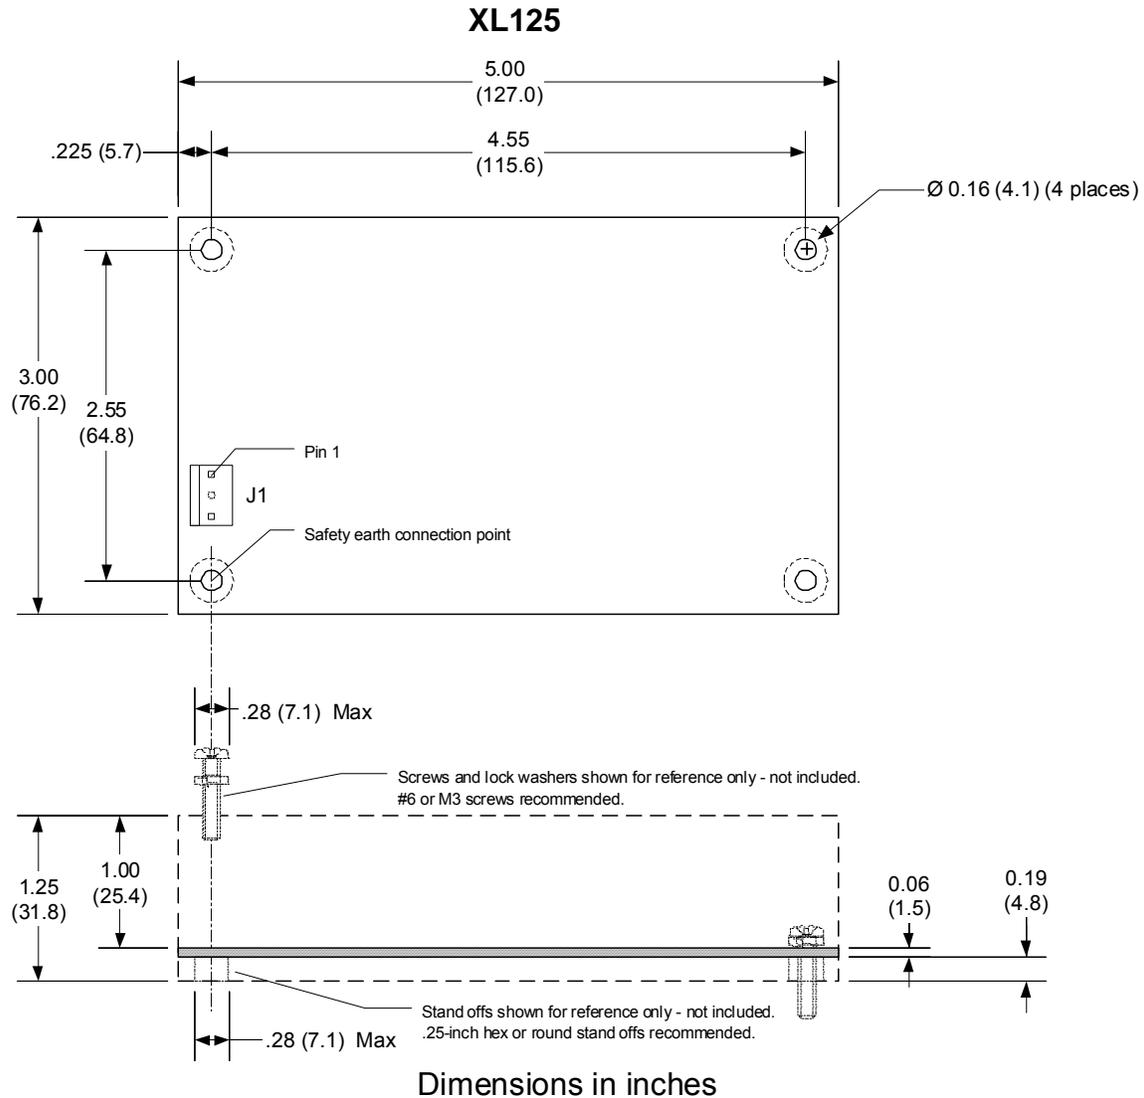
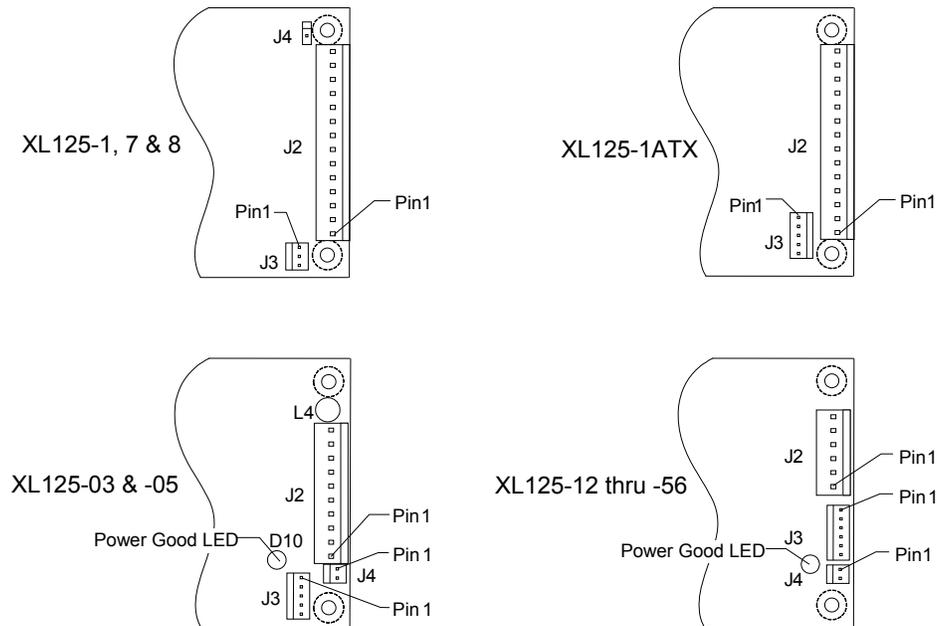

Figure 4-2 XL125 Dimensions
Figure 4-3 XL125 Output Connectors Layouts
The XL125 may be mounted in any attitude but must be mounted on all four corners. No. 6 or M3 mounting hardware should not exceed .282-inches (7.16-mm) in diameter for any lockwasher, flat washer, standoff, screw head or other mounting hardware to avoid contact and maintain adequate safety agency spacing requirements with components or printed circuit board traces. The XL125 requires a safety earth connection at the mounting hole nearest J1 (See Figure 4-2).
**The pin-1 location differs amongst connector manufacturers. Sometimes pin-1 differs between the header (on the power supply) and the mating housing from the same manufacturer. Disregard the manufacturer's pin-1 location and follow only the pin-1 locations in Figure 4-2 and Figure 4-3.**
- Refer to Figure 4-3 for connector and pin-1 locations
A green LED on XL125-12 through -56 models illuminates whenever the Power Good signal is true (high). See Figure 4-3 for the LED location near the output connector.